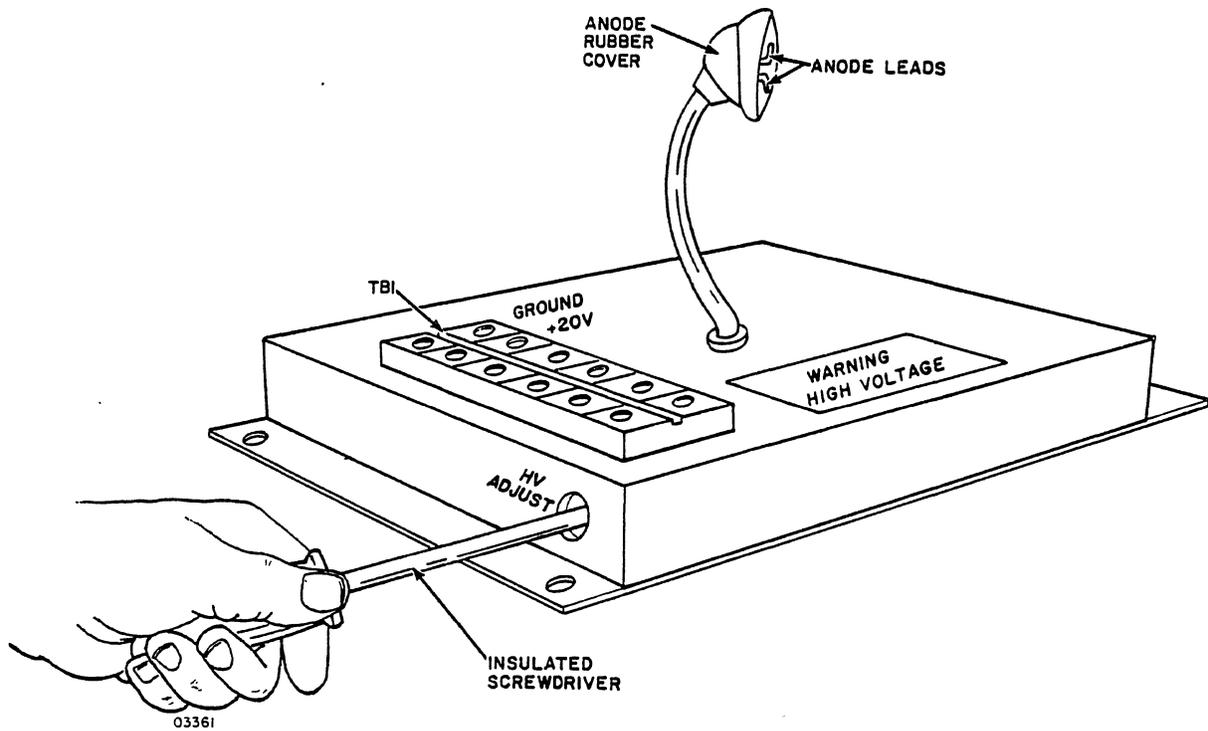

Figure 3-5. High Voltage Power Supply (CC545 G/H)
- Compare the High Voltage Power Supply, part number 51918275, used in the CC545 G/H shown as figure 6-10, publication number 62940018 (also included as figure 3-5 of this manual) with the High Voltage Power Supply, part number 61369600, used in the CC545 C, D, E, and F, shown as figure 6-11, publication number GF62952600. Note the size and shape of the different power supplies as well as the difference in adjustment positions.